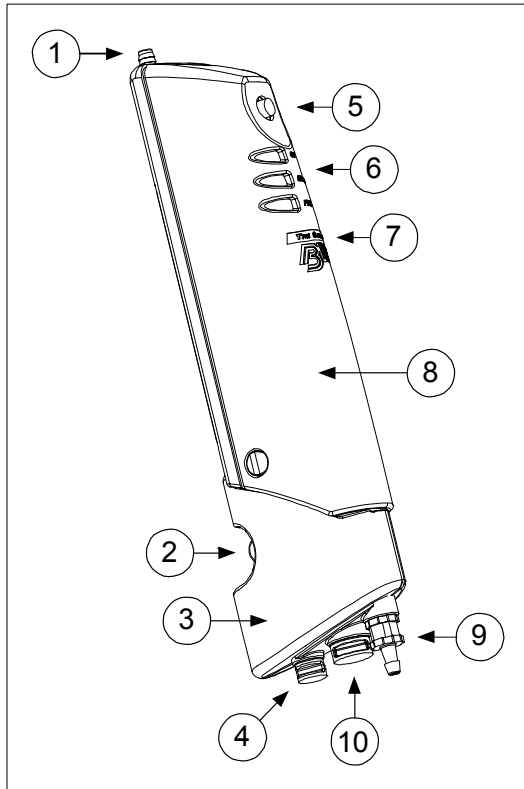

Figure 1. The Sampler
- Figure 1 and Table 2 describe the sampler's components.